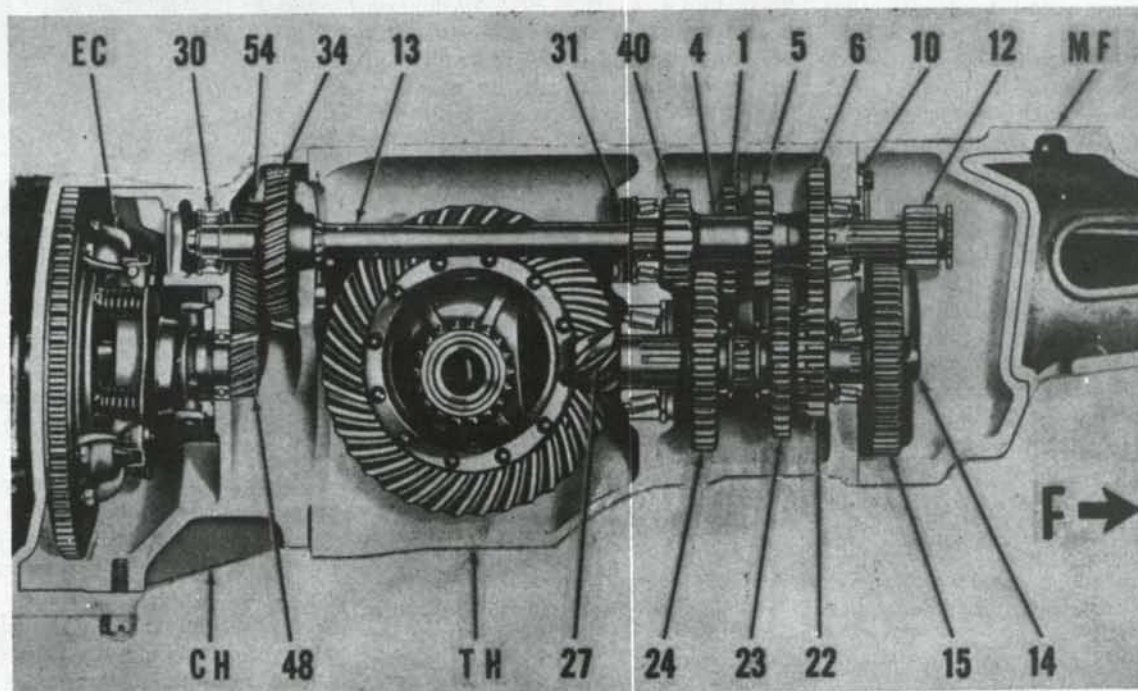

Fig. AC96—Model G transmission shafts, bevel pinion, ring gear, and differential unit are contained in the transmission housing.
213. *BASIC PROCEDURES.* Transmission shafts, differential, and the final drive bevel gears are carried in one case. Although most transmission repair jobs involve overhaul of the complete unit, there are infrequent instances where the failed or worn part is so located that the repair work can be completed safely, without complete disassembly of the transmission. In effecting such localized repairs, the mechanic will save time by observing the following as a general guide: Refer to Fig. AC96.
218. EXTRA LOW GEARS. On 4 speed gearsets, the extra low sliding pinion (12—Fig. AC96 or 99), which is movably splined on the forward end of the main shaft, and the stationary gear (15), which is retained on the forward end of the bevel pinion shaft, can be renewed independently as follows:
B. Remove the bevel pinion shaft nut (14), and pull the stationary gear from the shaft. When reinstalling gear, tighten nut until all bearing play is removed and a slight preload exists.